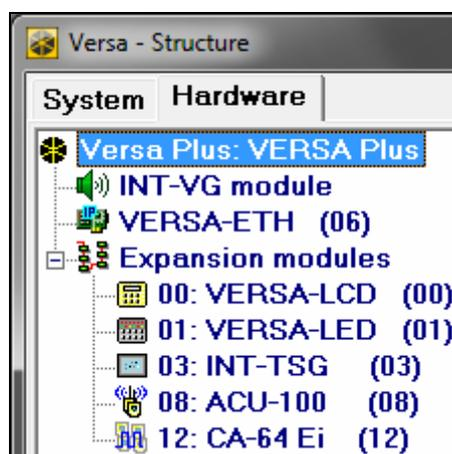

Fig. 12. DLOADX program: List of devices connected to the control panel, displayed in the “Hardware” tab, “VERSA – Structure” window.
- DLOADX program: “VERSA – Structure” window → “Hardware” tab. The list of devices is presented in the form of tree structure on the left side of the window (Fig. 12). Click on the name of device you want to configure.